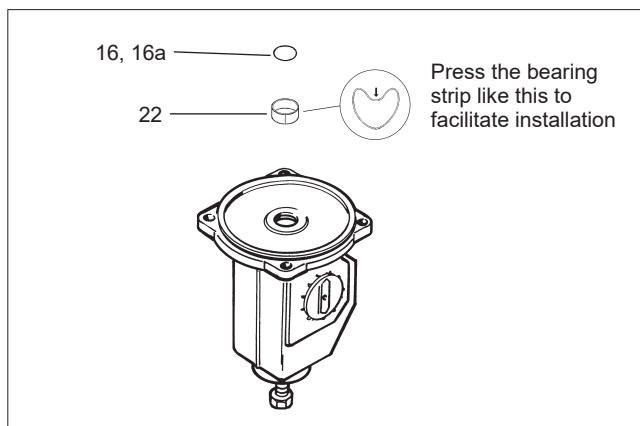

Fig. 9 Mounting the piston rod bearing and seal
- Remove the O-rings (16, 16a) and the bearing (22). Clean the seal space.
- Lubricate the seal space and the new O-rings (16, 16a) with Unisilikon L250L or equal silicone grease. Install the new bearing (22) and O-rings (16, 16a). See Figure 9.